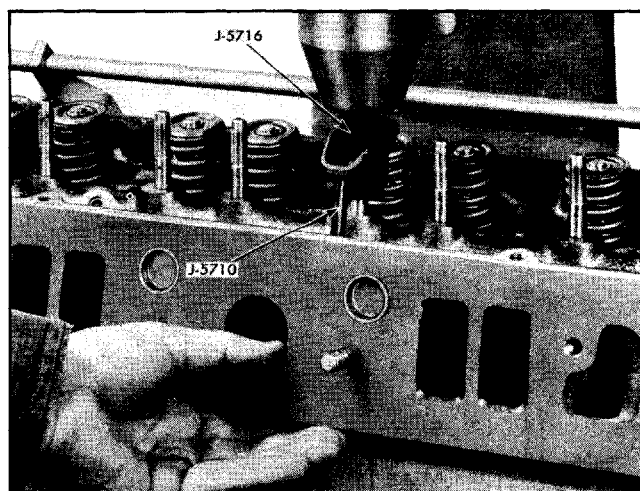
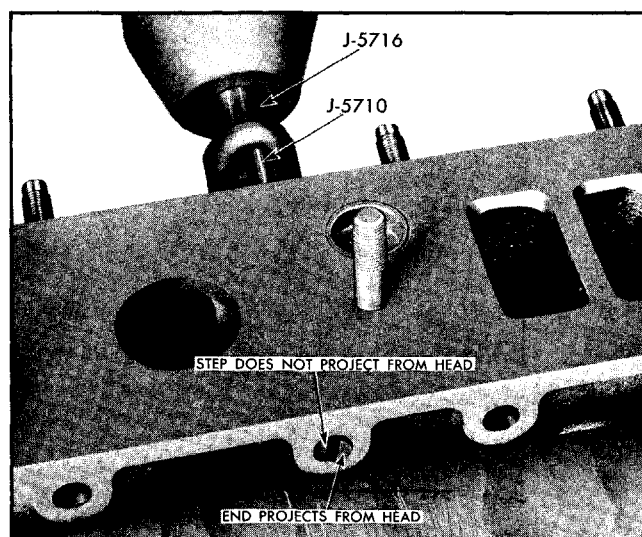

Fig. 6-19 Pressing in New Rocker Arm Stud
Fig. 6-20 Step of Gauge J-5710 When Stud is Properly Installed
6. Coat rocker arm stud with white lead and oil and with cylinder head mounted in press on tool J-5712 so studs are vertical, position new stud with rocker arm and rocker arm stud installer over hole in head (Fig. 6-19).
9. With valve seated, slowly press rocker arm stud into cylinder head (Fig. 6-19) until gauge projects about midway between the end of the gauge and the step with respect to the gasket surface of the cylinder head (Fig. 6-20).